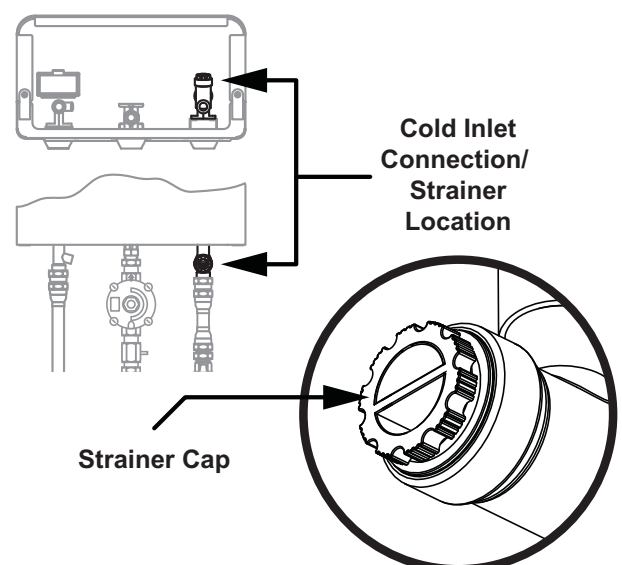

Figure 6.
13. Inspect and clean the strainer located on the cold water inlet connection. This procedure may need to be repeated to ensure the strainer remains clear, especially on new installations Figure 6.